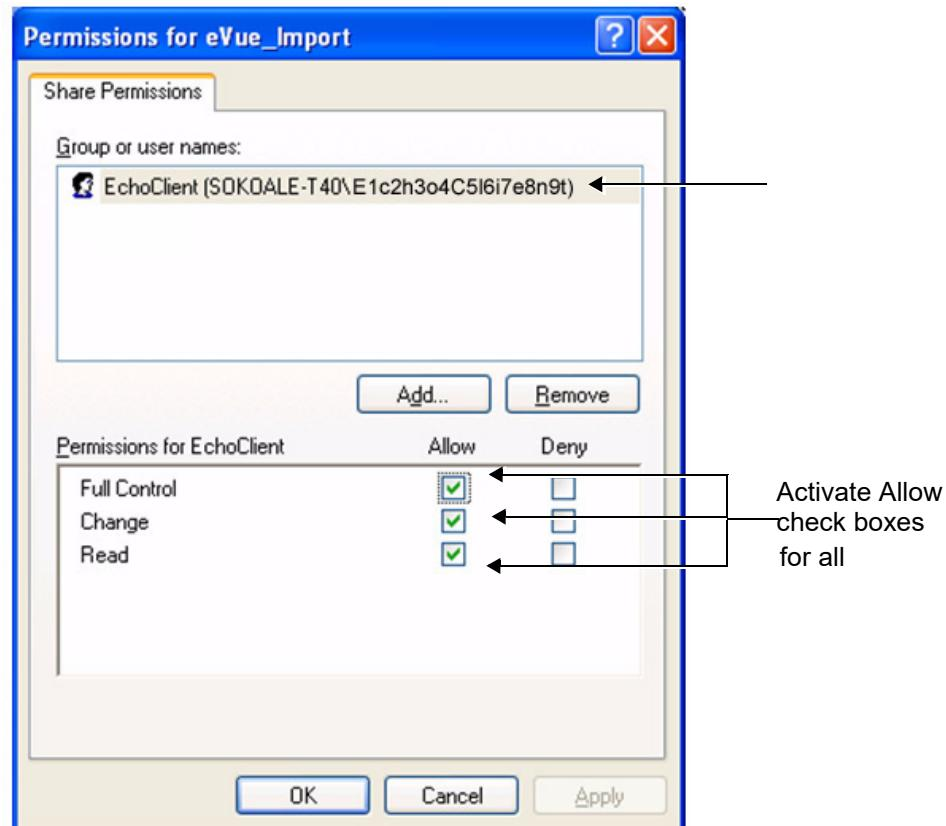

Figure 3-107 Setting Permissions for E1c2h3o4C5l6i7e8n9t
- l.) From the Permission for eVue_Import dialog box, highlight and select **E1c2h3o4C5l6i7e8n9t** from the list (see Figure 3-107).